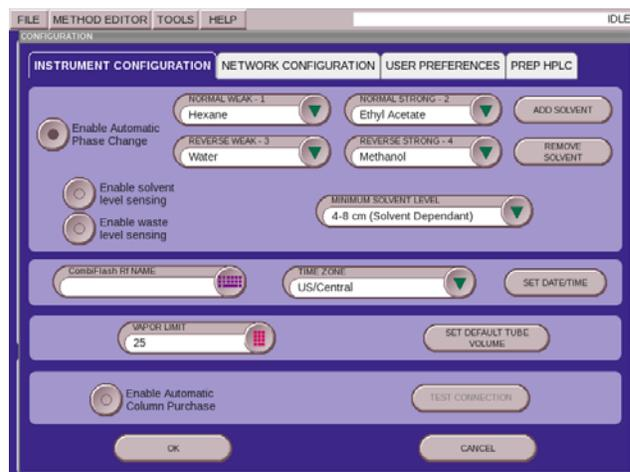

Figure 2: Solvent names and strengths
3. By selecting **OK** the screen now shows the solvent strength above the respective solvent name (Figure 2).